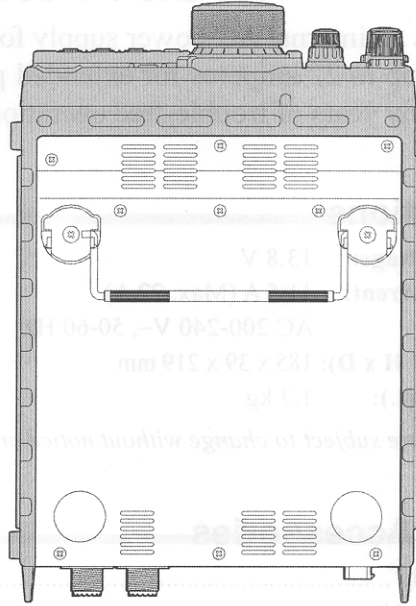

Figure 3
3. Attach the **FP-30** to the bottom of the FT-897, then affix it in place with the six screws removed in the above step (Figure 3).